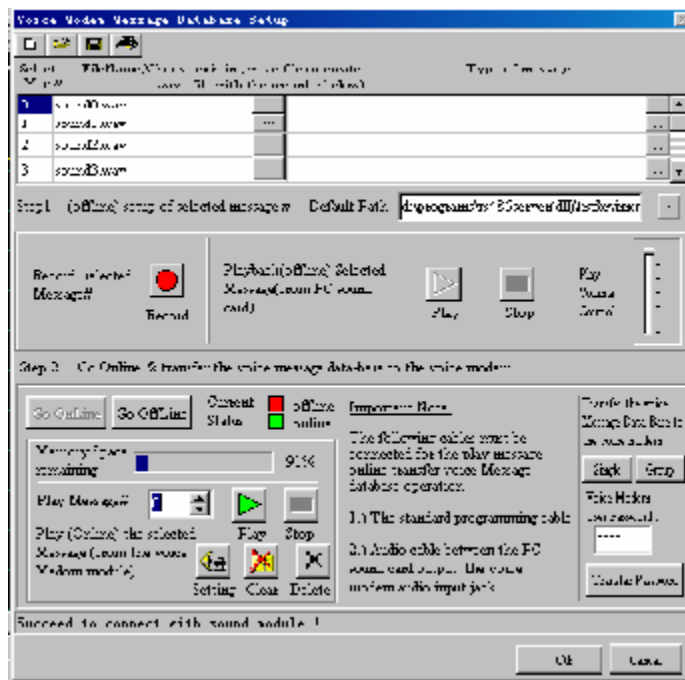
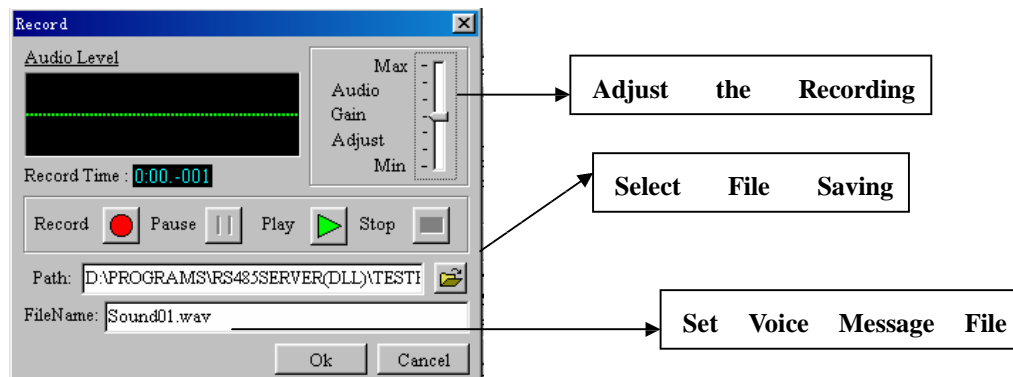

Fig. 5.4 PC Recording Main Interface
Fig. 5.7 Recording Dialogue Frame
7. Start SuperRelayLogic software and click “Option | Sound Record” to enter the recording main interface as shown in Fig. 5.4.
8. Click button  in Fig. 5.4. The dialogue frame as shown in Fig. 5.7 will be displayed.
9. Click button  in Fig. 5.7 and start to record. Length of the recording voice message is better no longer than 15 seconds. (When recording, it is need to insert the microphone into the microphone input terminal of the PC voice card.)